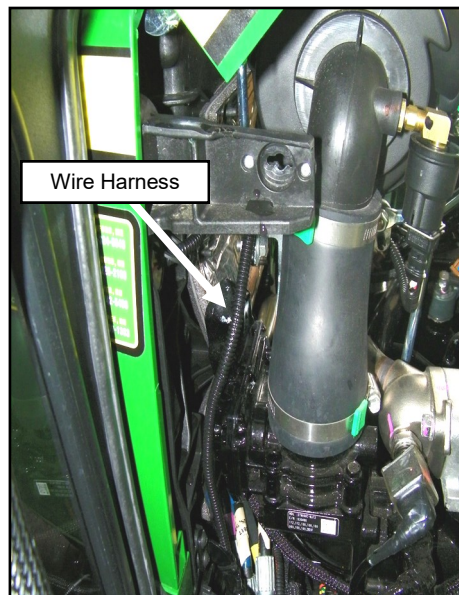

Fig. 15.7 (Wire Harness Runs Behind Engine)
- 15.7** Run the rest of the wiring harness through the engine bay behind the engine and down the left side of the engine up to the alternator. Be mindful and avoid pinch points and hot surfaces. See Figure 15.7.